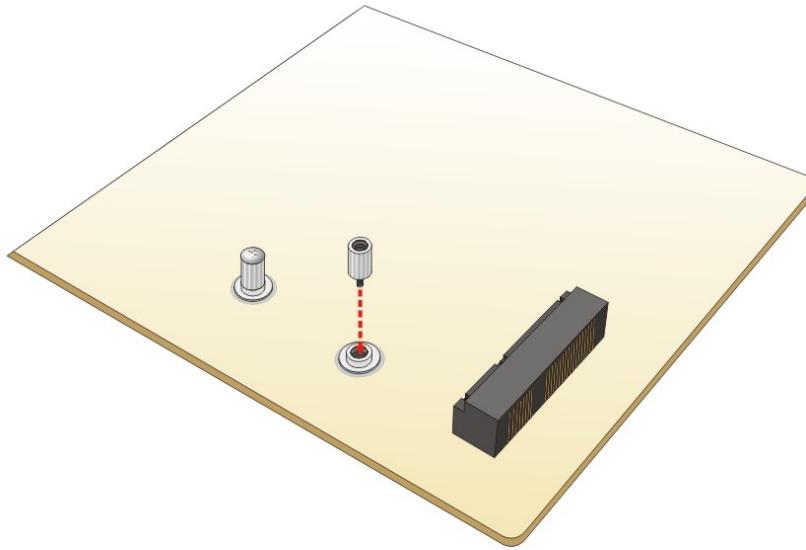

Figure 4-5: Installing the Standoff
- Step 2:** **Install the standoff to the screw hole for the half-size PCIe Mini card.** Install the supplied standoff to the screw hole for the half-size PCIe Mini card (**Figure 4-5**).